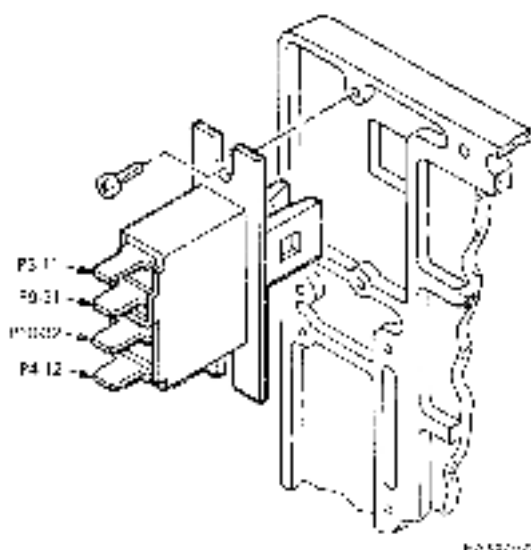

Figure 4-5 Top Cover Interlock Switch (Maintenance View)
1. With the tape deck in the maintenance position, remove the four labeled slip-on connectors from the interlock switch connectors. (If any wires are not labeled, identify and mark each wire for reassembly.) See Figure 4-5.
4. Attach the slip-on connectors to the appropriate studs of the interlock switch. Refer to Figure 4-5 for wire and connector positions.
1. Press the center button on the Hub to unlatch it (Figure 4-5).